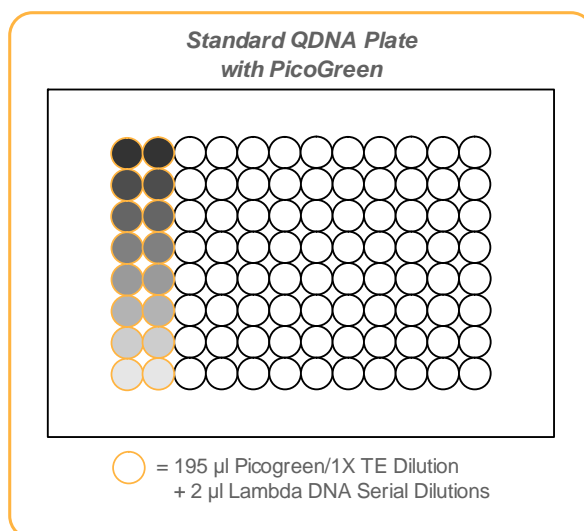

Figure 14 Standard QDNA Plate with PicoGreen
2. Using a multichannel pipette, transfer 195 µl PicoGreen/1X TE dilution into each well of columns 1 and 2 of the Fluotrac plate labelled "Standard QDNA" (Figure 14).